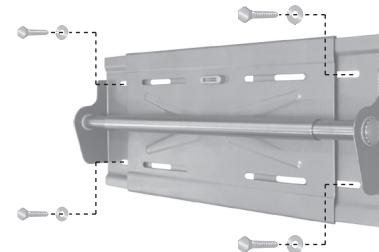

Fig. 2 - Attach the wall plate to the wall.
7. With the help of another person, replace the wall plate and level it using the bubble guide. Fix it to the wall using the Lag Bolts (Q) and Lag Bolt Washers (R) provided (Fig. 2).